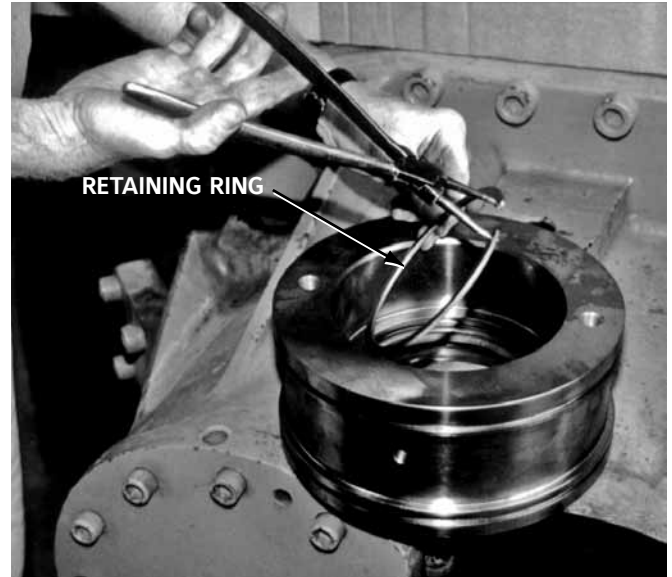
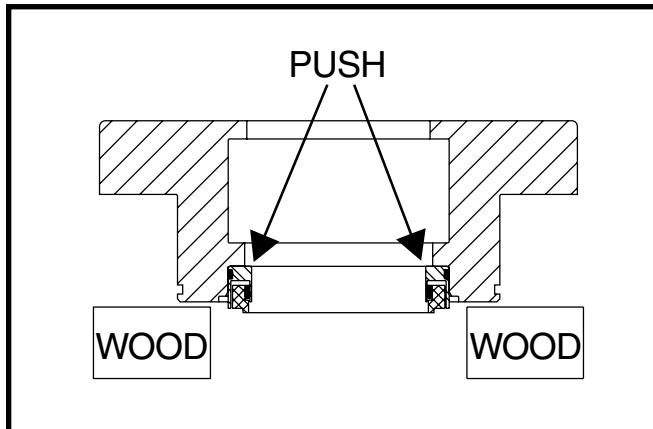

Figure 5.
Figure 4.
- See Figure 5. Remove retaining ring from seal housing spacer (6). Remove lip seal from seal housing spacer. Lip seal is a press fit and will need to be tapped or pressed out. Discard lip seal and retaining ring. This design is on compressors using housing cover shown in Fig. 4.
- See Figure 4. Place housing cover (1) on two blocks of wood with mounting flange facing up. Push out the carbon-faced seal cartridge/seal seat using wood or plastic, and discard*.
NOTE: Figure 4 shows the later housing cover used with lip seal. Earlier units will have a housing cover with a longer body extending past the carbon faced seal cartridge/seal seat. Wood blocks will not be needed for this type.